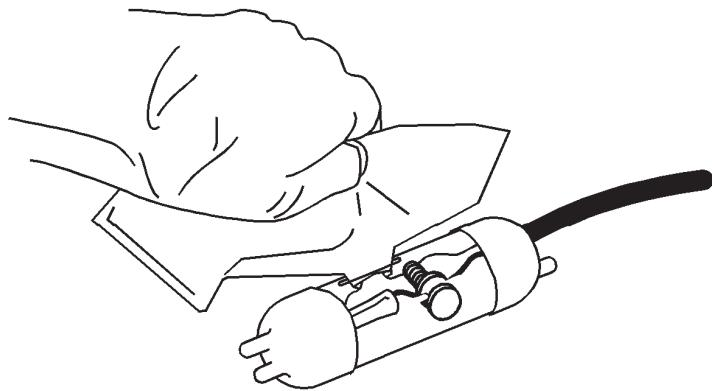

Figure 12. Pouring Q Compound
11. Once the mixture feels warm, immediately cut one corner and slowly fill the plastic sleeve. Stop just short of filling the entire sleeve. **Do not overfill**. [Figure 12]